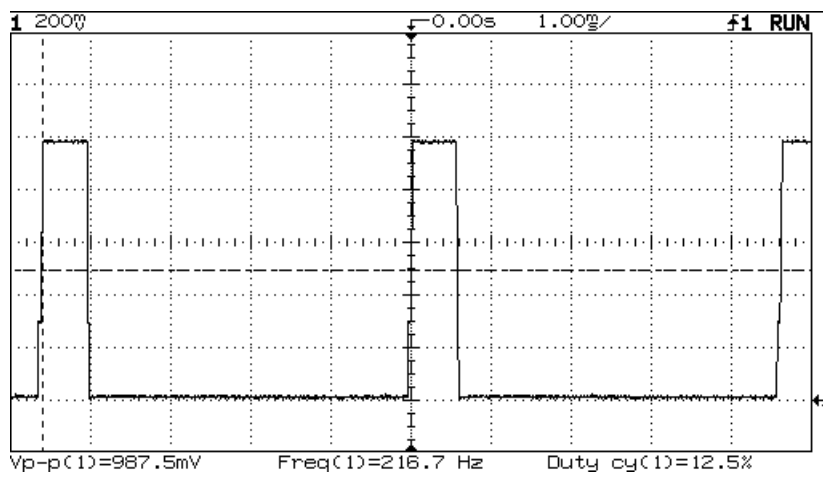

Fig. 4.13 V\_ERROR GSM @ Pwr Lvl 10 Pg. 1-16I
11. **TXP/TXP\_MOD** (Burst control profile from Superchip to control power ramp characteristics). See figure 4.13